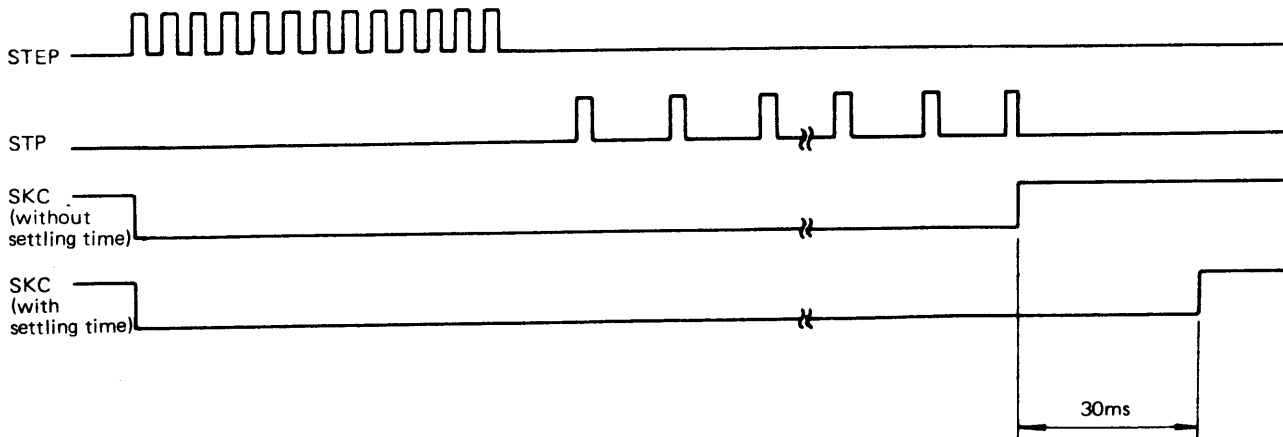

Fig. 4.20 SEEK COMPLETE Response Timing Chart
Refer to item 3.6.7 for the setting method of switch. Fig. 4.20 shows the timing chart of the SEEK COMPLETE response.